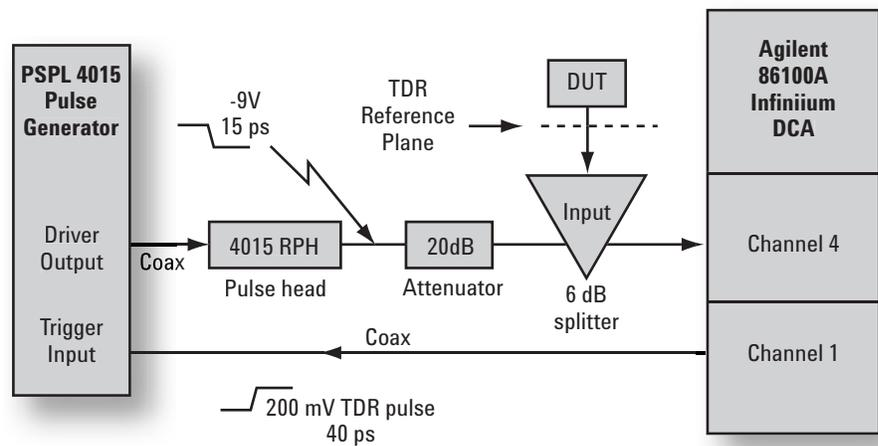

Figure 3. Block diagram setup for Agilent's 86100A with PSPL 4015.
1. Install the 54753/4A TDR plug-in module into the 86100A's left slot. Install the 83484A dual 50 GHz plug-in module into the right slot. Refer to Figure 3 for the TDR test setup. Remove the 2.4 mm (f-f) barrel adapter from the channel 4 input of the 83484A. Attach one of the arms of the Agilent 11667C 50 GHz power splitter (2.4 mm, 6 dB) directly to the channel 4 input. *Note: The port on the power splitter labeled "Input" is the TDR reference port.* Attach an Agilent 8490D, 2.4 mm, 20 dB attenuator to the second arm of the power splitter. Attach a 2.4 mm/3.5 mm, coaxial adapter to the attenuator. Now, attach the PSPL model 4015RPH pulse head to the attenuator. Use a short, microwave quality SMA, coaxial cable to connect the 4015C pulse generator "Driver Output" to the pulse head. Use an ordinary SMA coaxial cable to connect the TDR output pulse from the channel 1 connector of the 54753/4A module to the 4015C pulse generator's SMA "Trigger Input" connector. If you are using the 4015C, then also set the repetition rate control to "EXT".